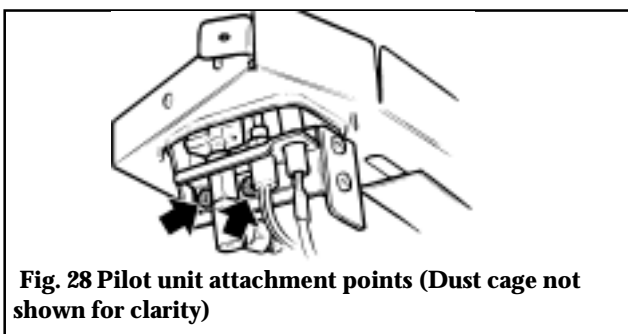

Fig. 28 Pilot unit attachment points (Dust cage not shown for clarity)
12.4 TO REMOVE THE PILOT UNIT (See figure 28)